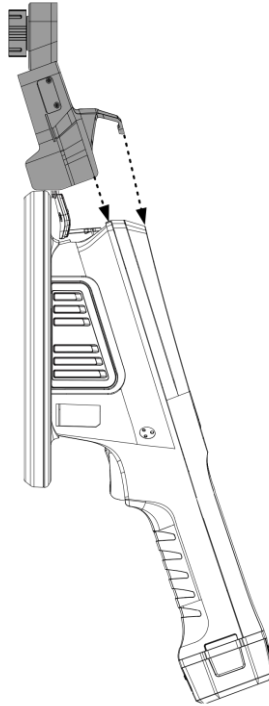

Figure 2-3 The Bracket and Thermal Imager Alignment
2. Align the bracket and the thermal imager according to the arrow direction (See *Figure 2-3*), making the bracket edge parallel to the camera frame.